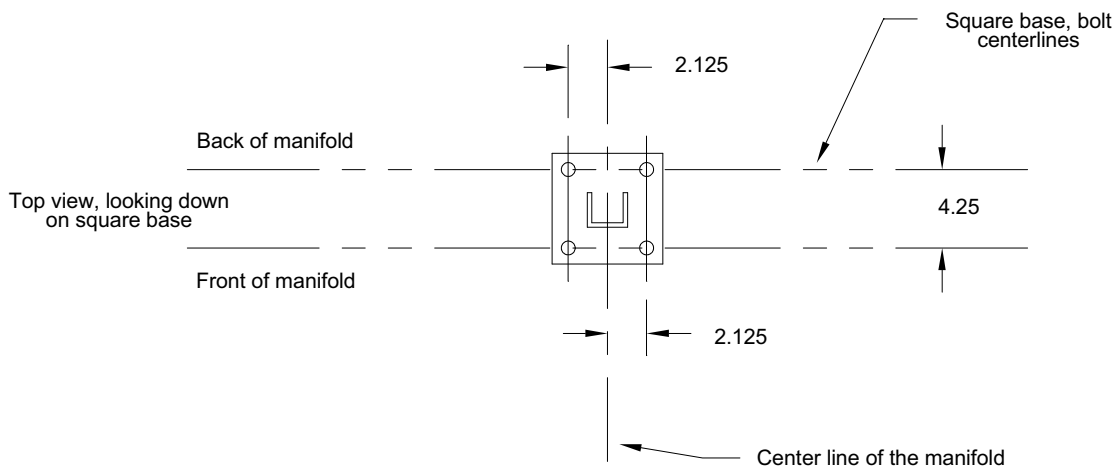

FIGURE 5
2. Mark the center line of the manifold and two lines 2.125 inches on each side of the center line per figure 5. These marks will indicate where the square base for the manifold cabinet post will be bolted to the floor.